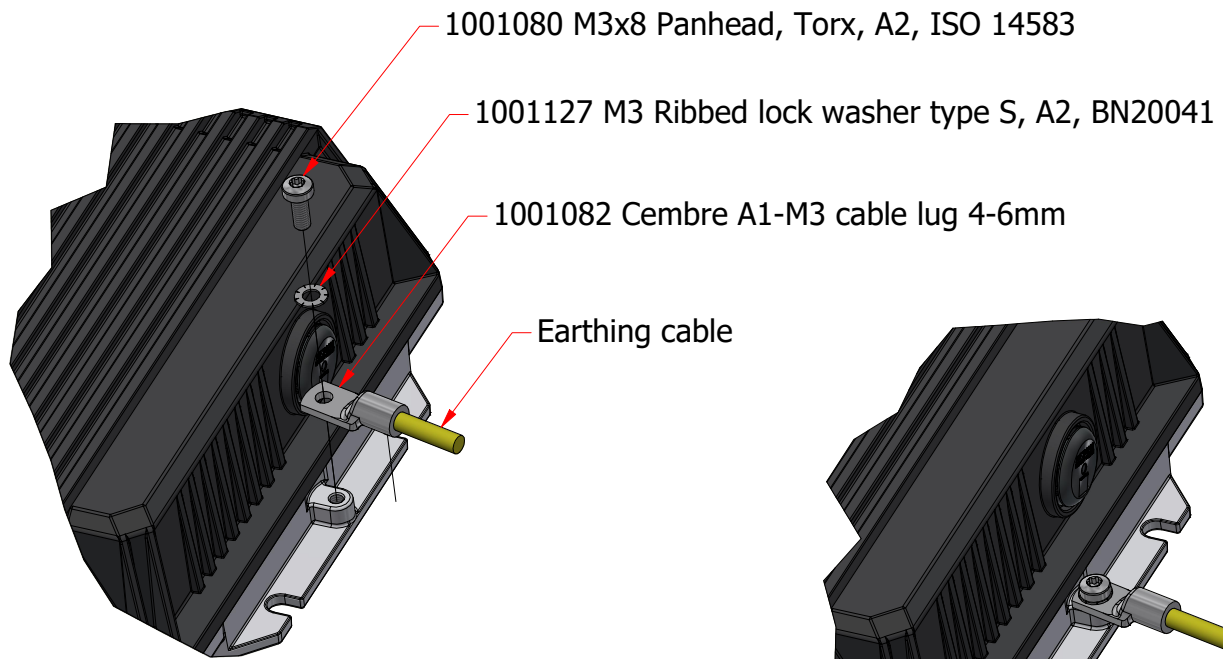

Figure 4
4.1 Place the screw, lock washer and cable lug over the mounting hole (Figure 4)